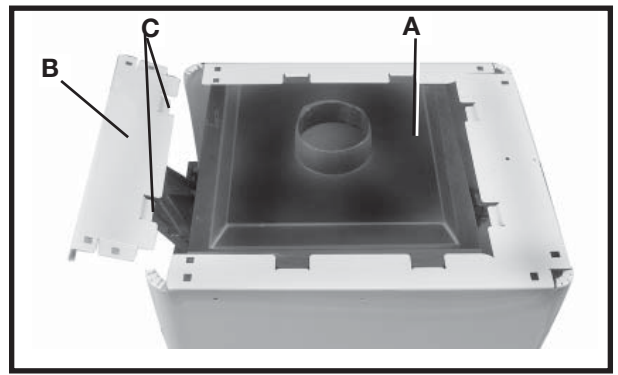
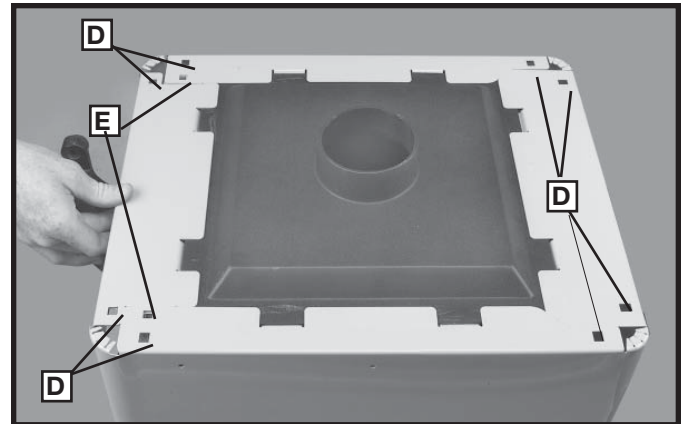

Fig. 25
Fig. 26
To install the dust chute and back brace, place the saw unit upside down on the floor as shown in Fig. 25.
To install dust chute (A) Fig. 25, slide it in as shown. Place back brace (B) with tabs (C) Fig. 25 below the chute edge as shown in Fig. 26. To fasten the back brace to the saw unit, place $\frac{5}{16}$ -18 x $\frac{5}{8}$ " Carriage Head Screws up from inside the saw cabinet through holes (E). Thread $\frac{5}{16}$ -18 Serrated Hex Nuts on the screws and tighten securely.
1. With the saw already upside down from installing the dust chute and back brace, place the mobile base and stand assembly on top of the upside-down saw and align the eight holes in the legs (two of which are shown at (A) Fig. 27) with the eight holes (D) Fig. 26.
2. In the holes (D) Fig. 26, place a $\frac{5}{16}$ -18 x $\frac{5}{8}$ " Carriage Head Screw up from inside the saw cabinet and then through the legs. Thread a $\frac{5}{16}$ -18 Serrated Hex Nut on the screw and tighten securely. Repeat for all eight holes.